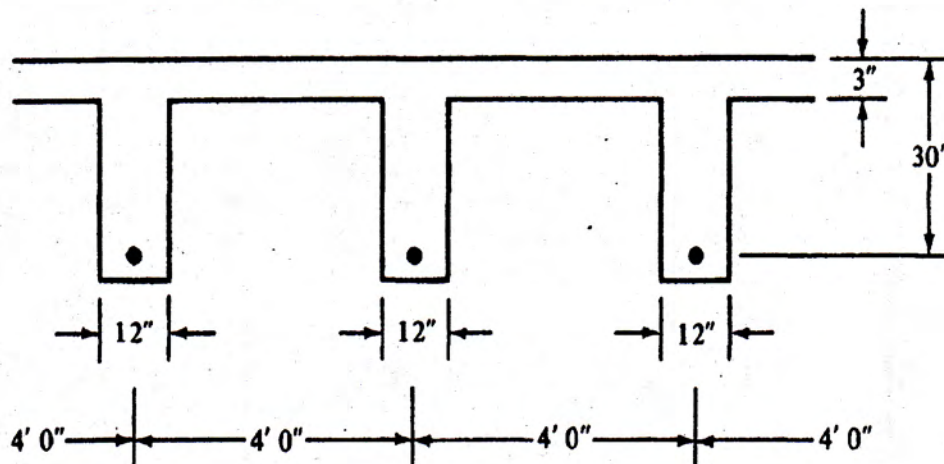

Figure: 4
5. Design a T beam for the floor system shown in Figure 4. Given, factored moment 650 k-ft, $f'_c = 3000$ psi, $f_y = 60000$ psi, $n=9$ and span of the beam = 24 ft. Use USD method. (10)